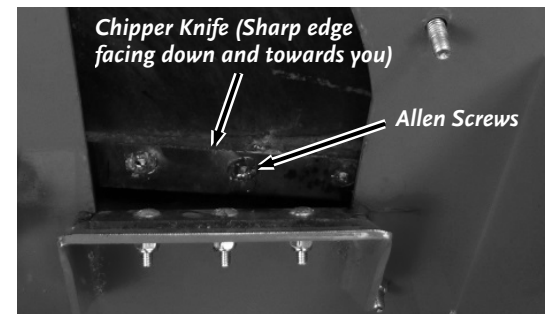
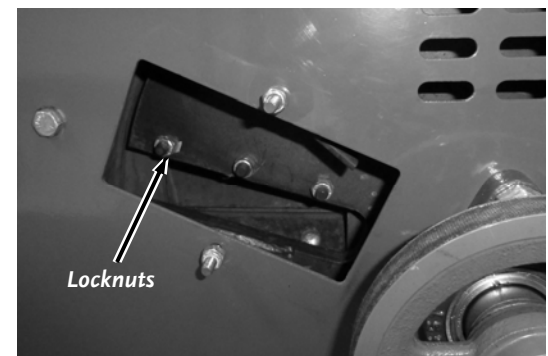

Figure 52
Figure 53
2. Rotate the Flywheel using a stick until the three countersunk Allen Screws (**Figure 52**) and Locknuts (**Figure 53**) attaching the Knife to the Flywheel are visible through the Access Openings.
3. Clean out the heads of the Allen Screws with an Awl or Sharp Tool (**Figure 52**).
5. While holding the Allen Wrench, remove the Locknut using a 1/2" socket (**Figure 53**).
8. Install a new or sharpened Knife as shown with the Knife edge facing down and towards you (**Figure 52**) and finger tighten the Allen screws and Lock Nuts (use the new hardware supplied with a new Knife kit) to hold the Knife to the Flywheel.